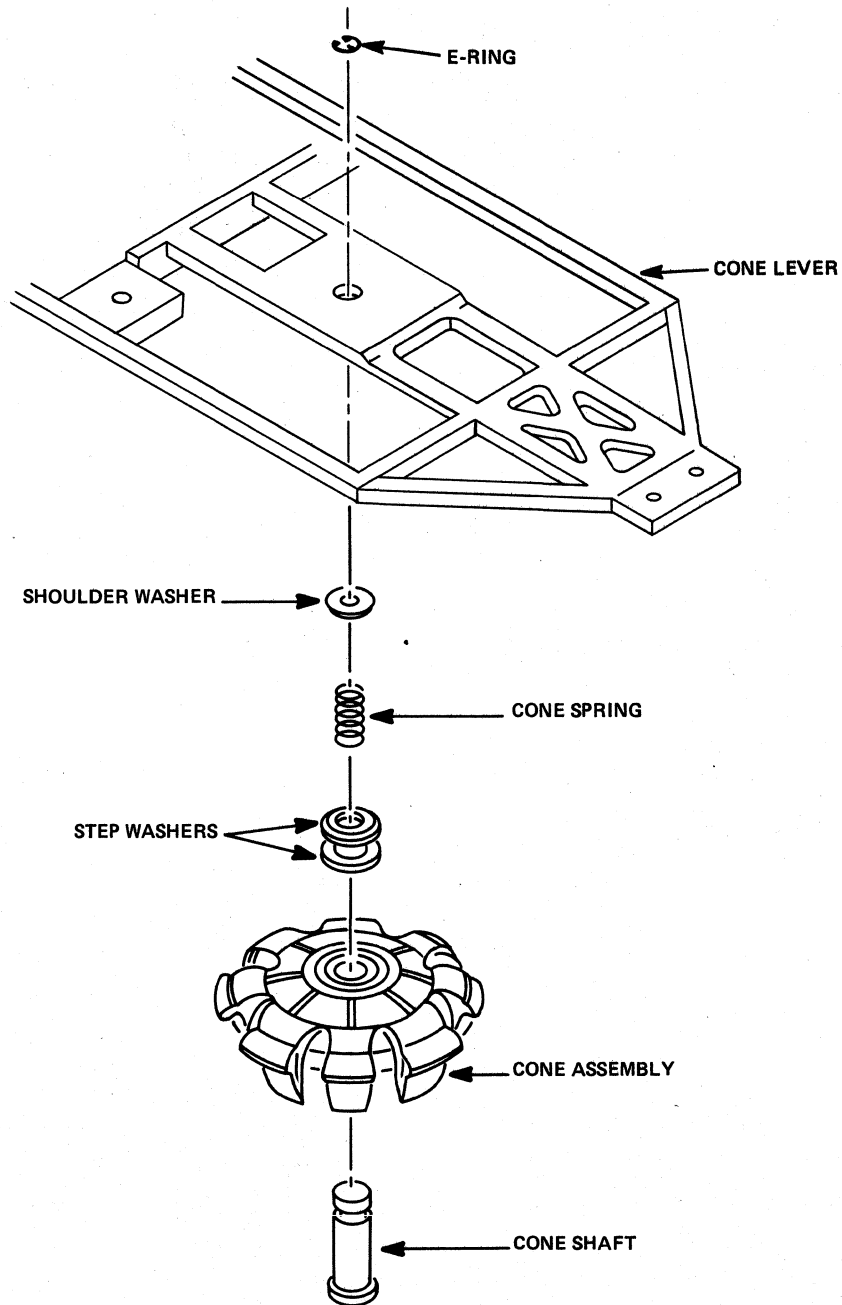

Figure 5-8
5.5.2 Remove the Cone Lever Assembly (see Section 5.4) (see Figure 5-8).
- 5.5.7 Install the E-ring in order to retain the Cone Lever Assembly (see Figure 5-8).